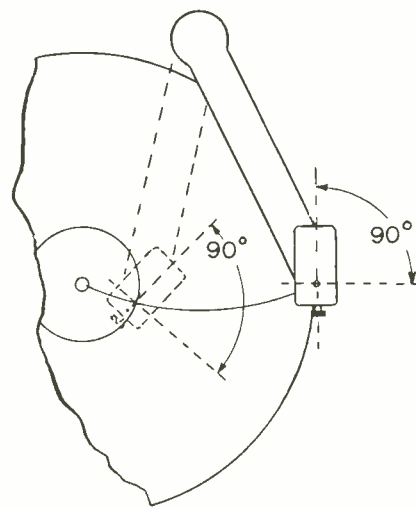

Fig. 2
Figure 2: In some substances, such as glass, some of the electrons are less tightly bound to their nuclei than in others. If we rub glass with silk (a substance in which the electrons are tightly bonded) the simple act of rubbing will be sufficient to dislodge some of the electrons from their atoms in the glass and these freed electrons will transfer to the silk. This upsets the normal electrical balance of both substances. The glass becomes positive, the silk negative, as shown at (A). Because of the attraction of unlike charges the two will tend to cling together. That this tendency is due to electrical phenomena can be demonstrated by quickly separating them, then connecting them together by means of a copper wire. Immediately there will be a measurable flow of electrons (current) through this wire, as shown at (B), due to the rush of excess electrons to re-establish the original balance. When this flow ceases it will be found that there is no longer this tendency for the two materials to cling together.
of some elements, the attraction of the nucleus for some of its outer electrons is relatively small, with the result that one or more electrons in the outer shell of the atomic formation may break away or may be attracted away from its nucleus by a stronger external positive force (see Fig. 2). In that event the electrical balance of the atom is upset. Having lost part of its negative charge its overall characteristic becomes positive and it will therefore tend to attract other electrons to it from other atoms to make up the deficiency. Thus there may be a certain amount of normal electron interchange between adjacent atoms. This does not mean that the fundamental character of the atom is changed, because, as explained above, an atom of one element cannot change its chemical identity and become another element unless the number of protons in its nucleus is also altered.